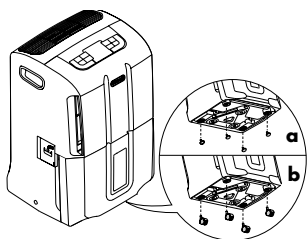

Fig. 1
- 2) Remove the rubber caps from the base of the appliance by pulling them out hard, using pliers if necessary (see figure 1/a).
- 3) Apply the castors by inserting their pins into the holes (see figure 1/b).